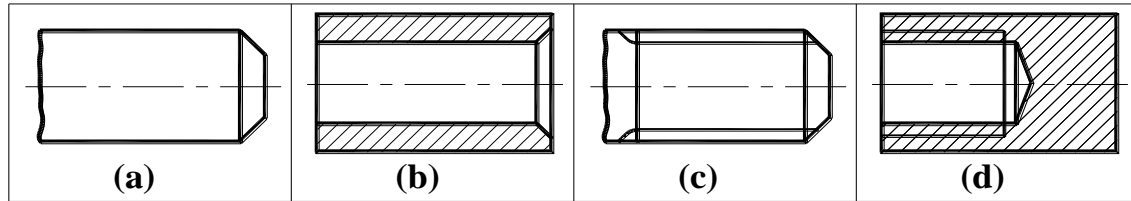

FIGURE T4.5
5. 5. DIMENSION THE CHAMFERS SHOWN IN FIGURE T4.5 (A) & (B), EXTERNAL THREADS SHOWN IN FIGURE T4.5(C), INTERNAL THREADS SHOWN IN FIGURE T4.5 (D).